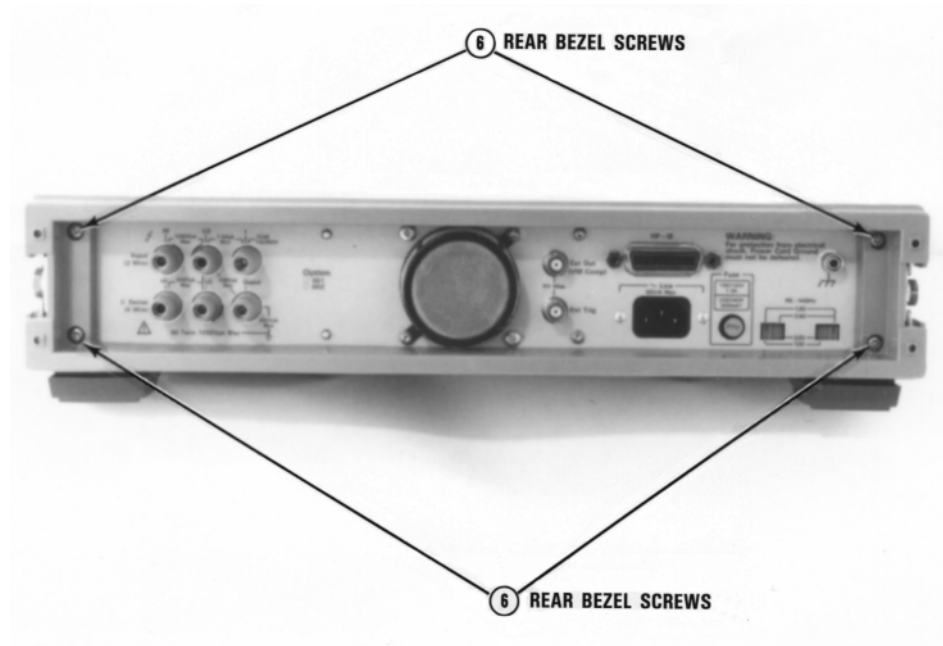

Figure 9. Remove/Install Rear Bezel
8. Refer to Figure 9. Turn the instrument so its rear faces you.
14. Refer to Figure 9. Turn the instrument so its rear faces you.